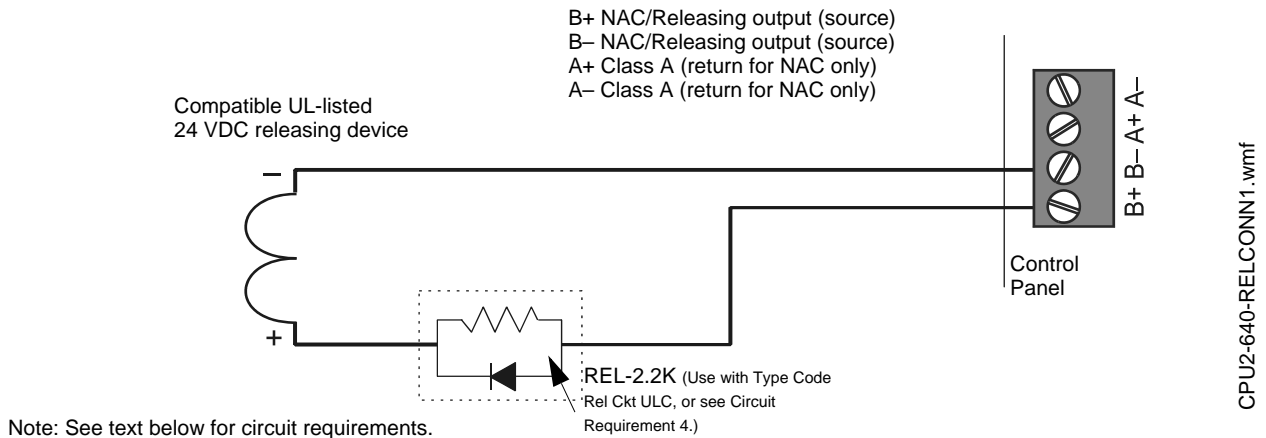

Figure 4.7 Typical Style 4 Connection of a Releasing Device to Control Panel
- a) Use an in-line supervisory device (P/N REL-2.2K) with control panel releasing circuits. Connect the End-of-Line device as shown in Figure 4.7.